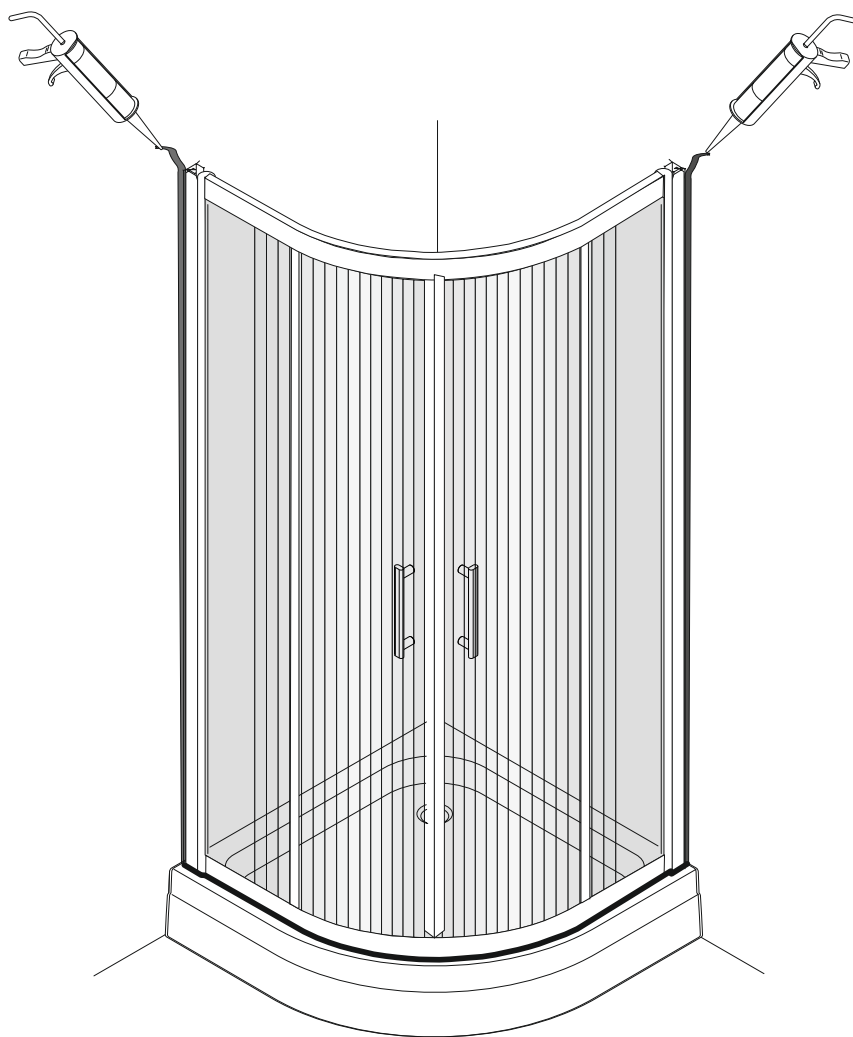

Fig. 13
12) Lay the glass cement between the wall and fixed door profile, bending rail with tray to complete the mounting. As Fig. 13
12) Siliconare nella parte esternail box doccia. Vedi fig. 13